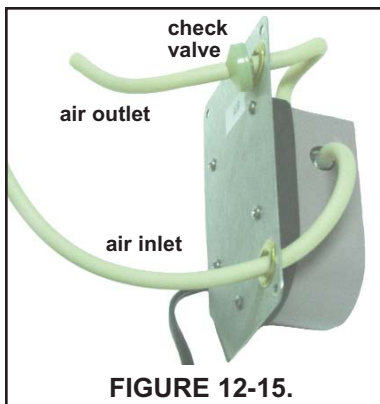

FIGURE 12-15.
4. Disconnect the air inlet and outlet tubing from the air pump. See Figure 12-15.
12. Connect the air inlet and outlet tubing to the air pump. See Figure 12-15. The conical end of the check valve points in the direction of the air flow.